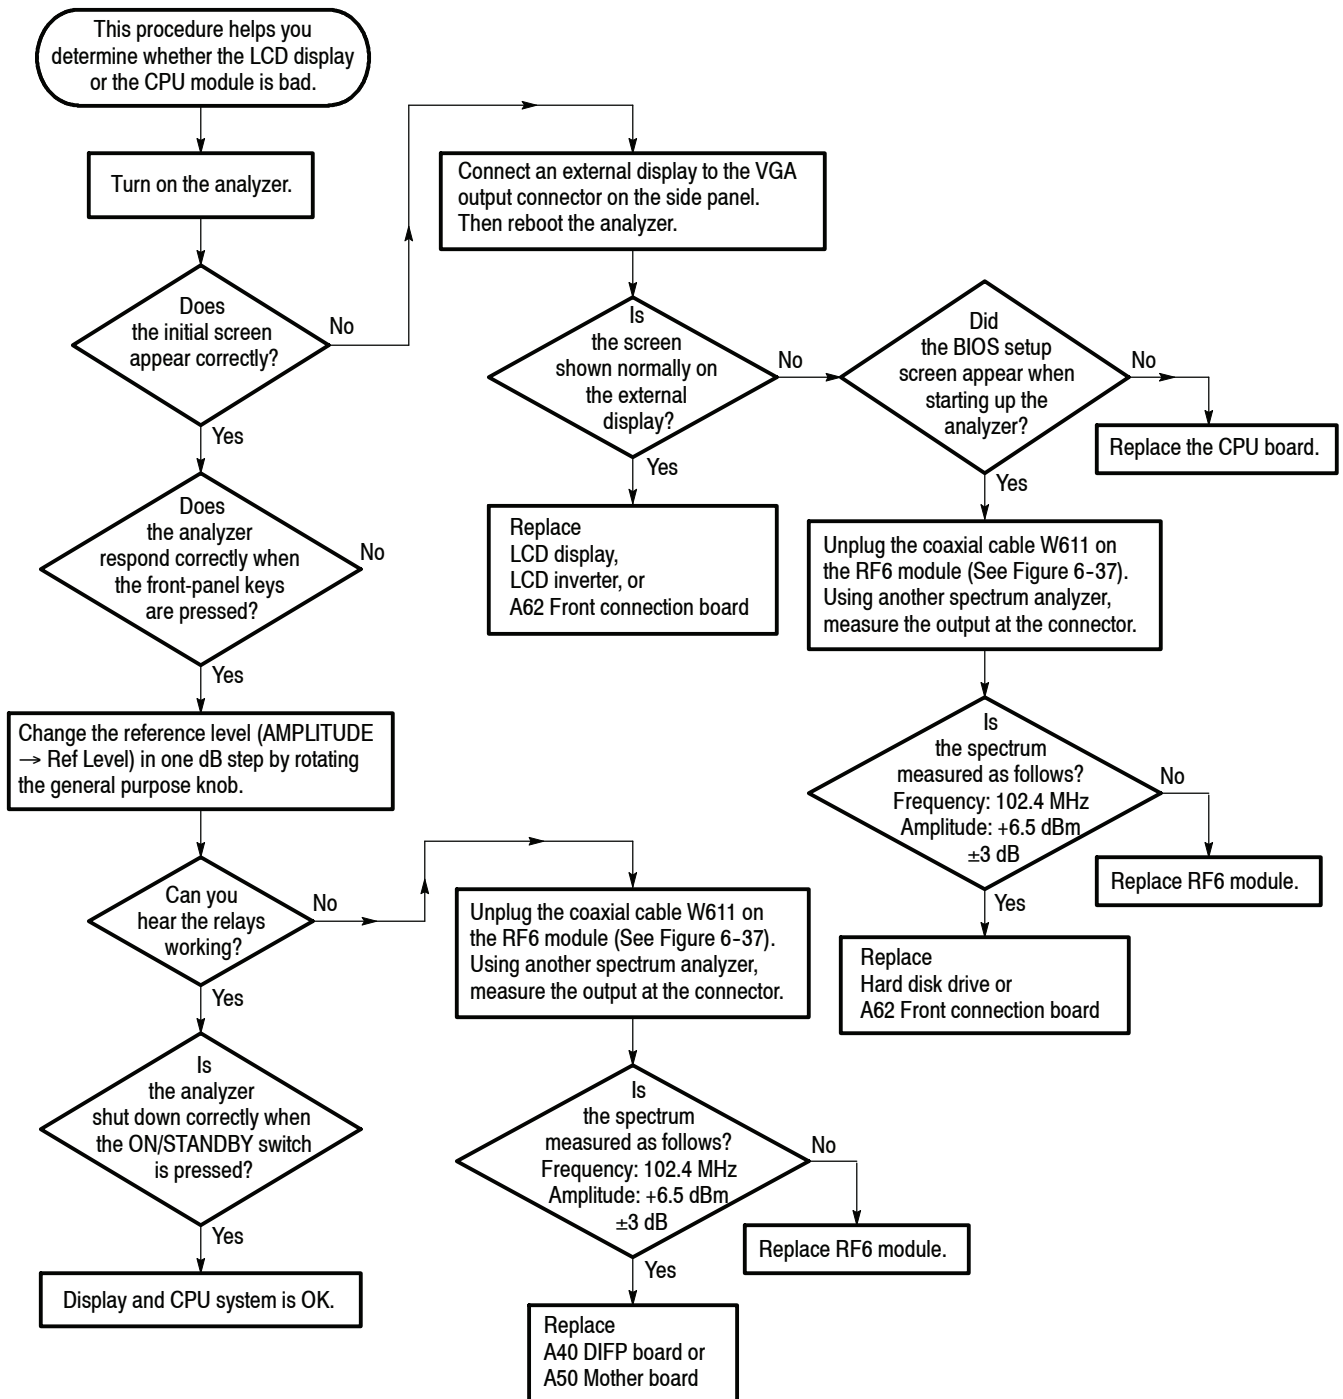

Figure 6-35: Troubleshooting procedure 2 — Display and CPU system
- Figure 6-35: Troubleshooting Procedure 2 — CPU and Display system